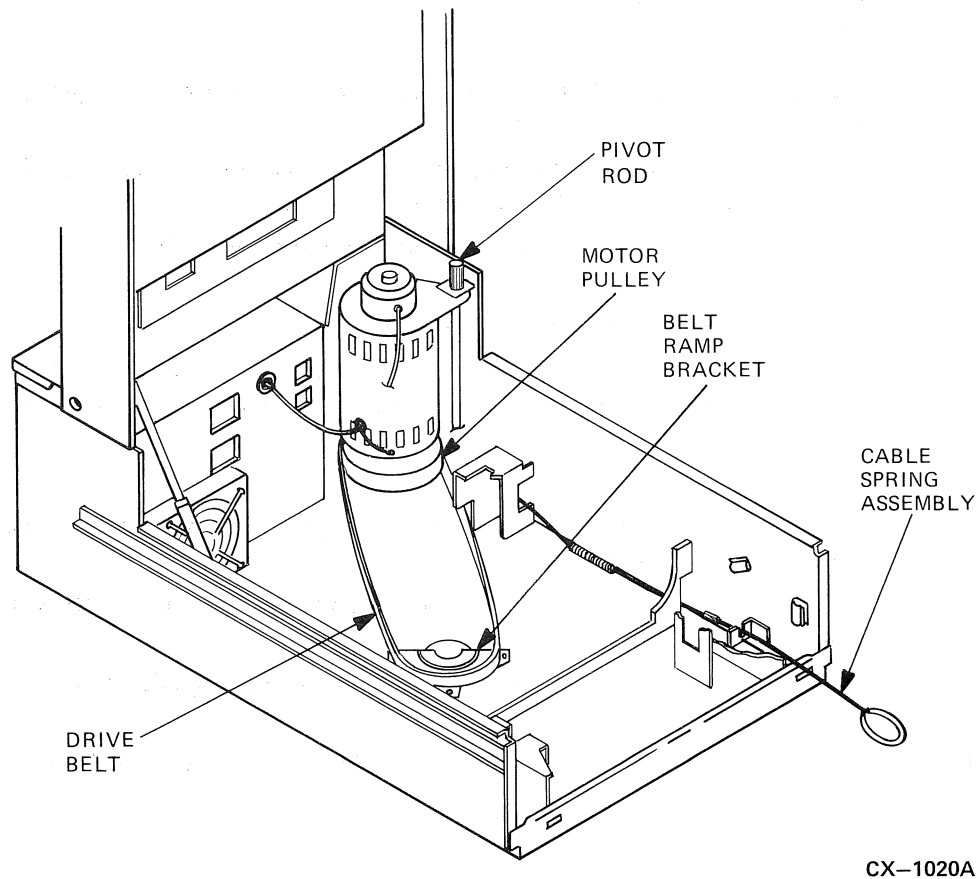

Figure 6-27 Belt Alignment
3. Center the drive belt on the belt ramp bracket on the lower chassis as illustrated in Figure 6-27.